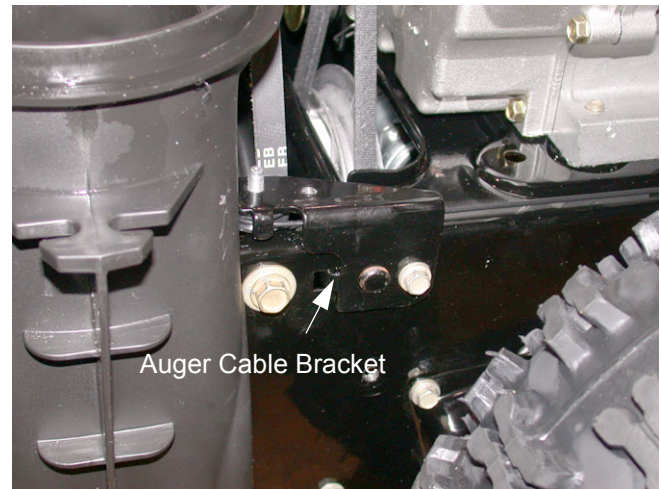

Figure 39
- 14.9. Using a 3/8" socket, remove the AB screw securing the auger cable guide bracket to the frame. See Figure 39.